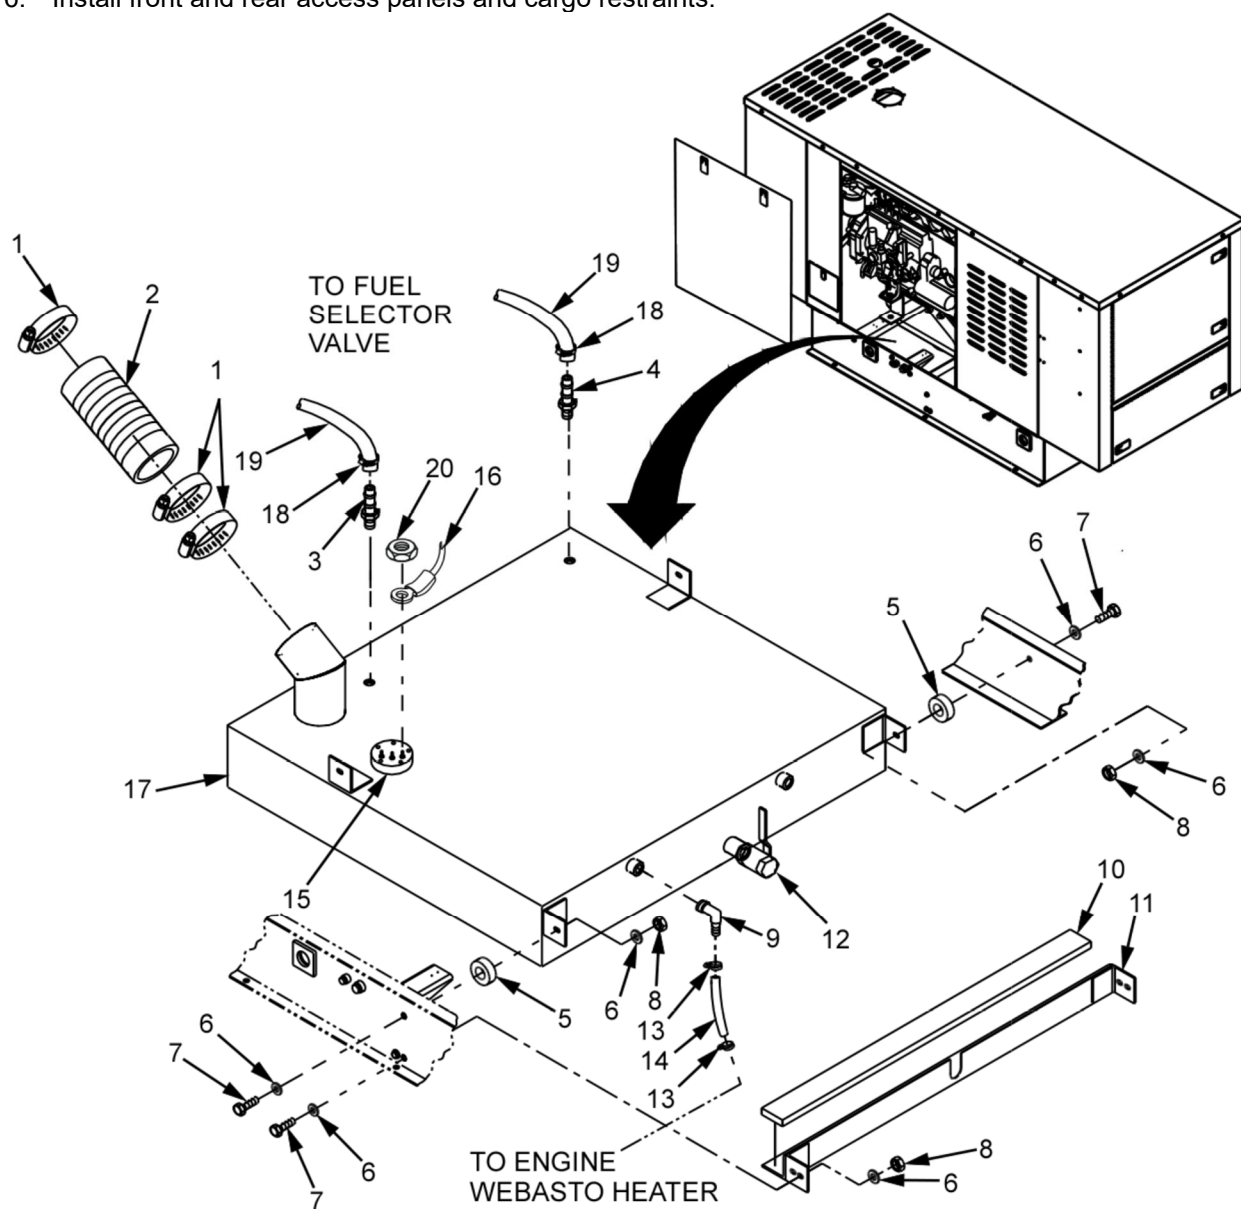

Figure 3. Genset Fuel Tank - Replace.
4. Using either a flat tip screw driver or socket and ratchet, loosen the fuel hose clamps (Figure 3, Item 1) and remove hose (Figure 3, Items 2).
5. Using either a flat tip screw driver or socket and ratchet, loosen the fuel hose clamps (Figure 3, Item 18) securing fuel lines (Figure 3, Item 19) and slide out of the way.
7. Grasp hoses (Figure 3, Item 19) and rotate the hose close to the connection to break the connection.
8. Loosen hose connectors (Figure 3, Items 3 and 4) with an open end wrench. Remove hose connectors and place in drain pan or onto absorbent pad for use in replacement tank.
9. Remove and retain four mounting bolts (Figure 3, Item 7), eight washers (Figure 3, Item 6), and four lock nuts (Figure 3, Item 8) securing fuel tank support strut (Figure 3, Item 11) with Spacer (Figure 3, Item 10) to Genset frame. Discard four lock nuts (Figure 3, Item 8).
10. Rotate drain valve (Figure 3, Item 12) to clear fuel tank support strut (Figure 3, Item 11) opening.
Due to CARC paint, corrosion, etc. fuel tank support strut (Figure 3, Item 11) may be difficult to remove. It may be easier to slide fuel tank support strut (Figure 3, Item 11) back as far as possible without removing from Genset frame.
11. Move fuel tank support strut (Figure 3, Item 11) and spacer (Figure 3, Item 10) away from fuel tank.
12. Loosen but do not remove four lock nuts (Figure 3, Item 8) and flat washers (Figure 3, Item 6) from inside mounts on fuel tank (Figure 3, Item 17).
20. Remove and retain four lock nuts (Figure 3, Item 8) and flat washers (Figure 3, Item 6) loosened in step 12. Discard four lock nuts (Figure 3, Item 8)
21. Remove and retain four bolts (Figure 3, Item 7), flat washers (Figure 3, Item 6) and spacers (Figure 3, Item 5) securing fuel tank (Figure 3, Item 17) to Genset frame.
22. Remove and retain digital fuel level sensor (Figure 3, Item 15) and drain valve (Figure 3, Item 11) for use on replacement tank.
When replacing heater (hydronic) fuel hose connectors (Figure 3, Item 9), apply a thin layer of sealing compound to connector threads.
1. Inspect, replace if necessary, and install digital fuel level sensor (Figure 3, Item 15) and drain valve (Figure 3, Item 12) in replacement fuel tank (Figure 3, Item 7). Do not completely tighten drain valve (Figure 3, Item 12) until after fuel tank and fuel tank support strut (Figure 3, Item 11) are installed.
3. Place replacement fuel tank (Figure 3, Item 17) in approximate location under Genset.
4. Using appropriate number of personnel, raise fuel tank (Figure 3, Item 17) up into Genset. Install four bolts (Figure 3, Item 7), flat washers (Figure 3, Item 6) and spacers (Figure 3, Item 5). Spacers (Figure 3, Item 5) go between brackets welded to fuel tank and Genset frame.
5. Loosely install four new lock nuts (Figure 3 Item 8) and flat washers (Figure 3, Item 6).
Prior to installing fuel tank support strut (Figure 3, Item 11), ensure Spacer (Figure 3, Item 10) is present and securely fastened.
7. Install fuel tank support strut (Figure 3, Item 11) and spacer (Figure 3, Item 10) to Genset frame and align holes. Loosely install four mounting bolts (Figure 3, Item 7), eight washers (Figure 3, Item 6), and four new lock nuts (Figure 3, Item 8).
8. Align fuel tank and tighten four new lock nuts (Figure 3, Item 8) and bolts (Figure 3, Item 7) and secure fuel tank (Figure 3, Item 17) to Genset frame.
9. Tighten drain valve (Figure 3, Item 12). Once drain valve is tight ensure valve is orientated properly.
10. Tighten four mounting bolts (Figure 3, Item 7), eight washers (Figure 3, Item 6), and four new lock nuts (Figure 3, Item 8) that secure tank support strut (Figure 3, Item 11) to Genset frame.
11. Install fuel connections (Figure 3, Items 3 & 4) and fuel hoses (Figure 3, Item 19). Tighten clamps (Figure 3, Item 18).
12. Loosely assemble fuel source hose (Figure 3, Items 14), elbow (Figure 3, Item 9), and hose clamps (Figure 3, Item 13) and install onto fuel tank (Figure 3, Item 17). Using either a flat tip screw driver or socket and ratchet, tighten all hose clamps (Figure 3, Item 13).
13. Ensure drain valve (Figure 3, Item 12) is shut.